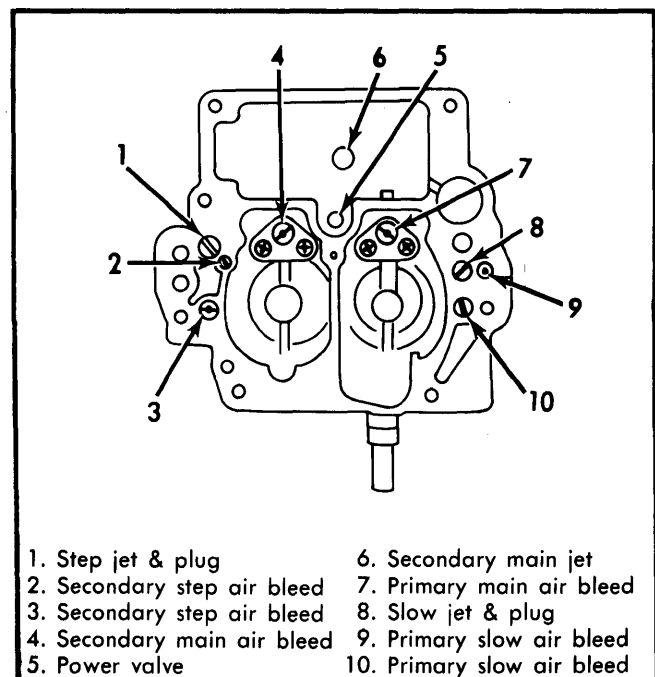

Fig. 11 Removing Air Bleeds and Jets
6) Remove diaphragm cover screws and cover. Remove spring, diaphragm and throttle lever hanger retaining screw from diaphragm. Remove fuel blow sight glass retaining screws, then remove cover, gasket, glass and rubber gasket. Remove all air bleeds and jets from main body. Note size of all jets and bleeds for reinstallation in original position. See Fig. 11.